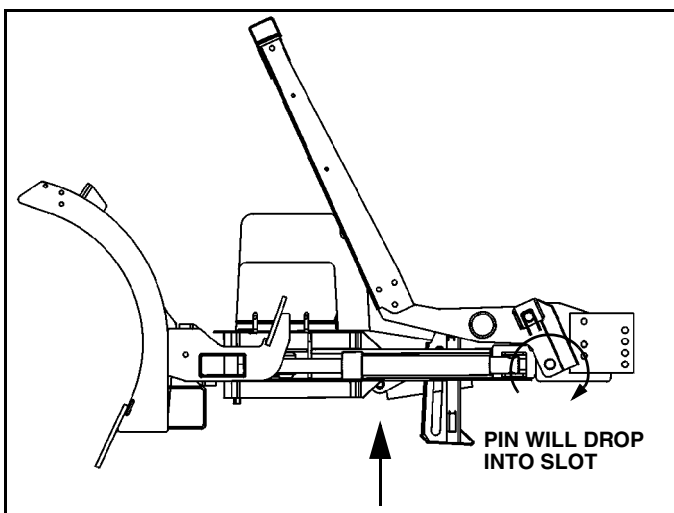

Figure 1-22
3. Rotate light/lift bar into position by turning on down pressure and pressing the lower button. (See Figure 1-22).